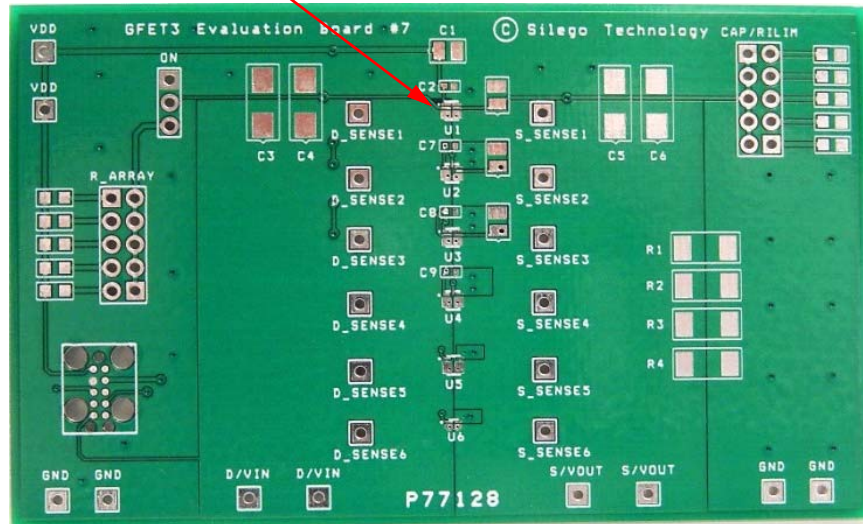

Figure 1. SLG59M1448V Evaluation Board.
2. Since the D and S pins dissipate most of the heat generated during high-load current operation, it is highly recommended to make power traces as short, direct, and wide as possible. A good practice is to make power traces with absolute minimum widths of 15 mils (0.381 mm) per Ampere. A representative layout, shown in Figure 1, illustrates proper techniques for heat to transfer as efficiently as possible out of the device;
A GreenFET Evaluation Board for SLG59M1448V is designed according to the statements above and is illustrated on Figure 1. . Please note that evaluation board has D_Sense and S_Sense pads. They cannot carry high currents and dedicated only for $R_{DS(ON)}$ evaluation.